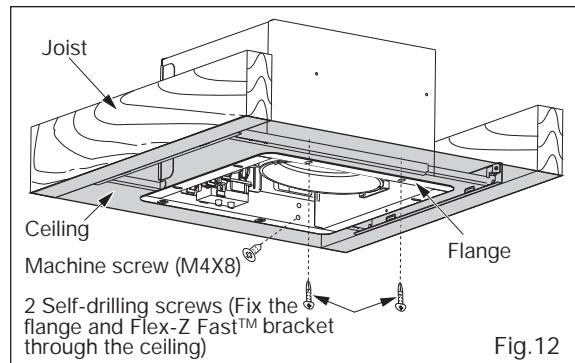

Fig.12
4. Secure the fan body to Flex-Z Fast™ bracket by using 2 self-drilling screws, plug connector to receptacle and secure the fan body to adaptor by using machine screw (M4X8). (Fig.12)